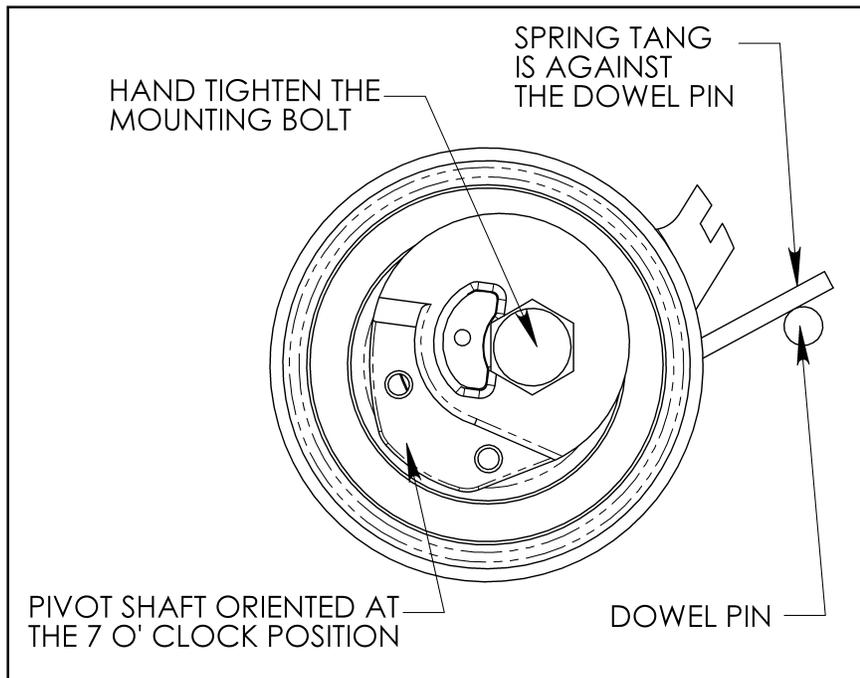

**Figure 1. Timing Drive Engine Layout**
8. Install the timing belt being careful to engage the appropriate teeth of all the corresponding sprockets as per drive layout (Fig. 1) starting with the crankshaft and working counterclockwise **ONLY** : C/S → F/P → Idler → camshafts → Idler → W/P → tensioner.